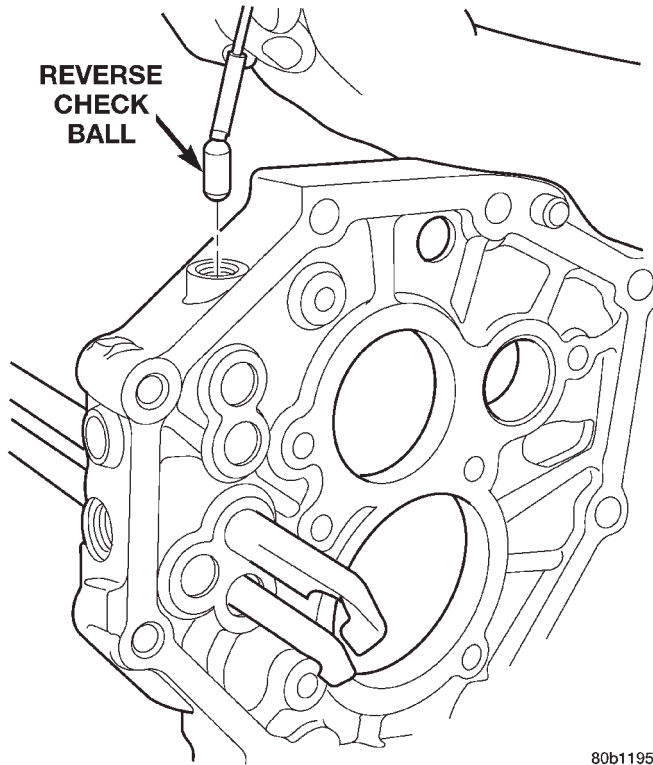

Fig. 78 Install Reverse Check Ball
- (6) Install the reverse check ball into the intermediate plate (Fig. 78).